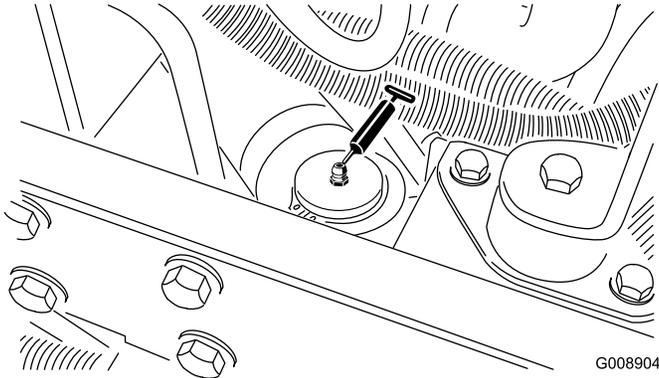

Figure 40
- Steering cylinder (Figure 40).